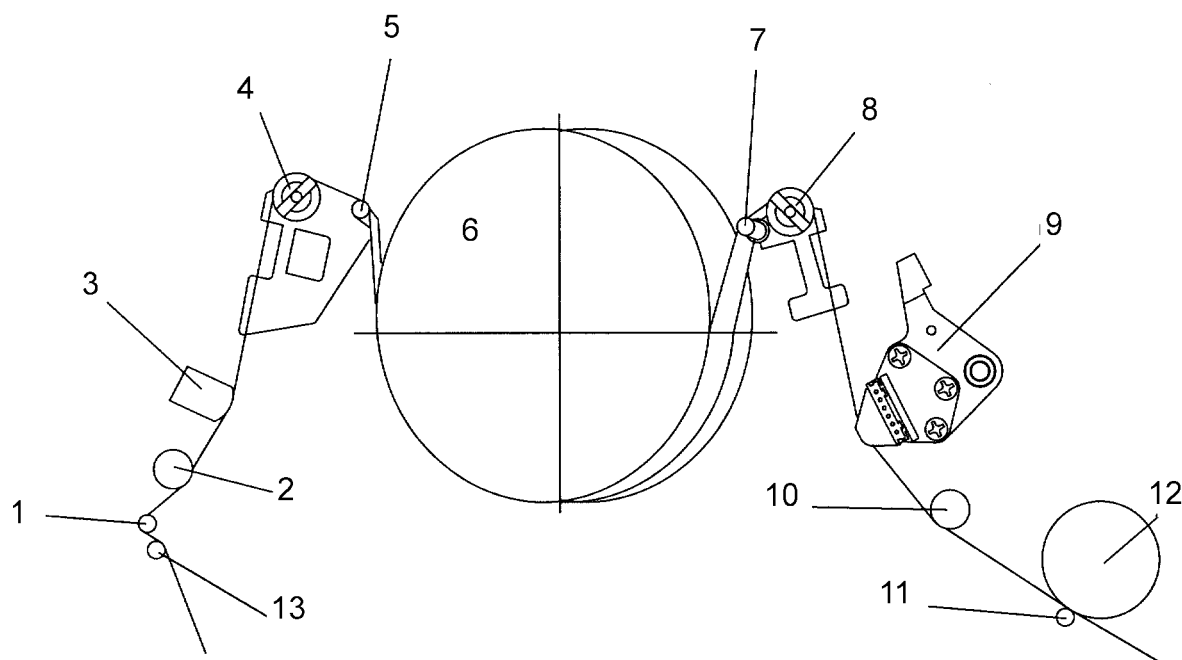

Fig. 9 Tape Transporting System
When the parts shown in Fig. 9 are substituted, Tape Path can change. To prevent this, refer to the following instructions.
- a. Play back a T-120 tape and observe the tape running condition at the upper and lower Flanges of T-Guide Post Assembly (11) in Fig. 9.